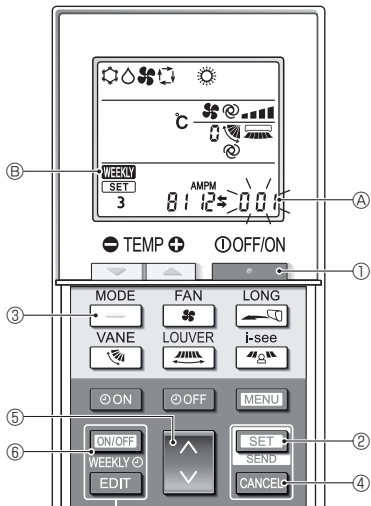

Fig. 5-12
- Press the **MENU** button ②.
5.10.8. How to disable Auto mode operation (Fig. 5-12)
1. Press the **STOP** button ① to stop the air conditioner.
2. Press the **SET** button ② for 5 seconds.
3. Press the **UP/DOWN** button ④.
4. Completing the settings (Fig. 5-12)
- Press the **SET** button ② for 5 seconds.